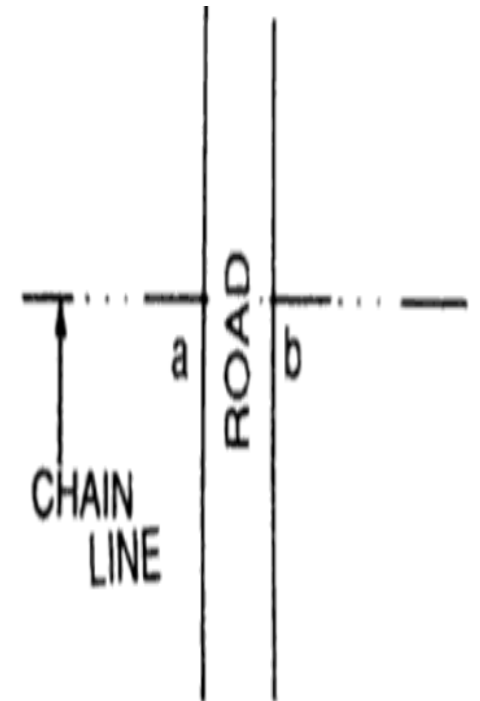

Fig. 2.11
- When a road crosses the chain line perpendicularly, the chainage of the intersection point is to be noted (Fig. 2.11).